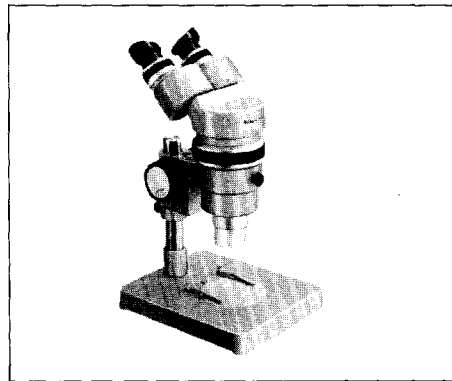

Fig. 21
1. Binocular eyepiece tube (Fig.21)